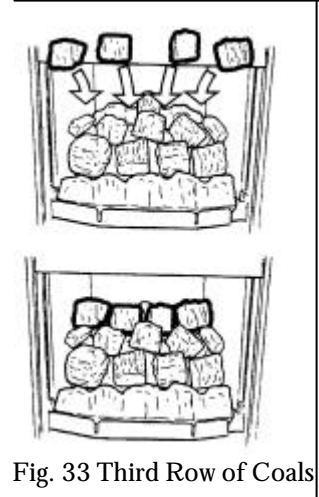

Fig. 33 Third Row of Coals
11.3.3 Place the four remaining coals in a row at the back of the firebox compartment. See figure 33.